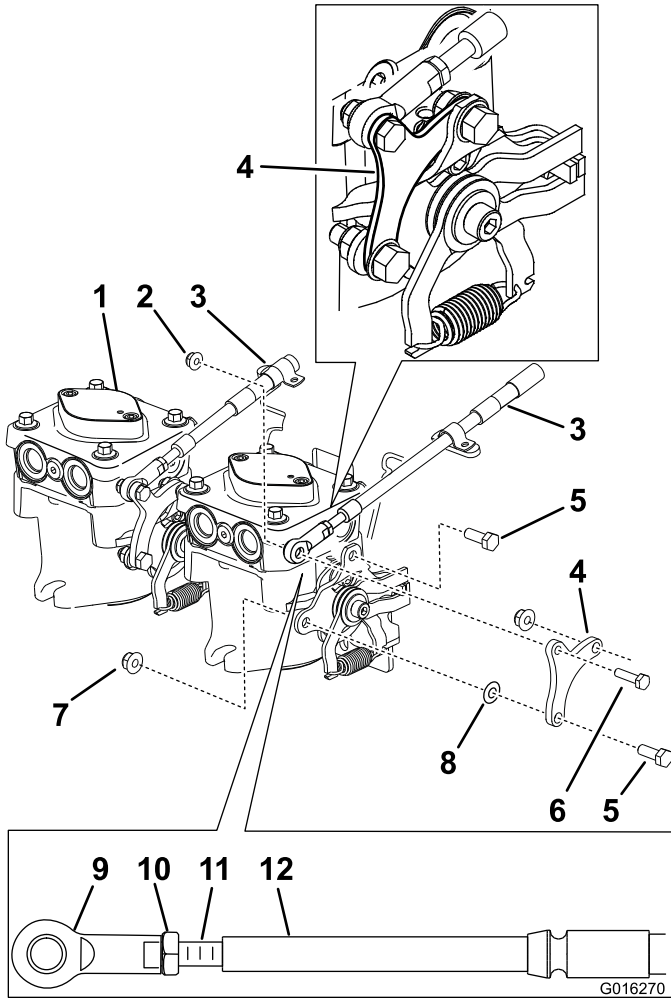

Figure 13
6. Remove the existing pump arms from each of the pumps (Figure 13). Save all hardware.
9. Install the new pump arm to each pump with 2 existing bolts (5/16 x 7/8 inches) and 2 existing flange nuts (5/16 inch) (Figure 13).
10. Connect the lower cable end to the new pump arm with a bolt (1/4 x 1 inch) and flange nut (1/4 inch). Repeat for the opposite side (Figure 13).